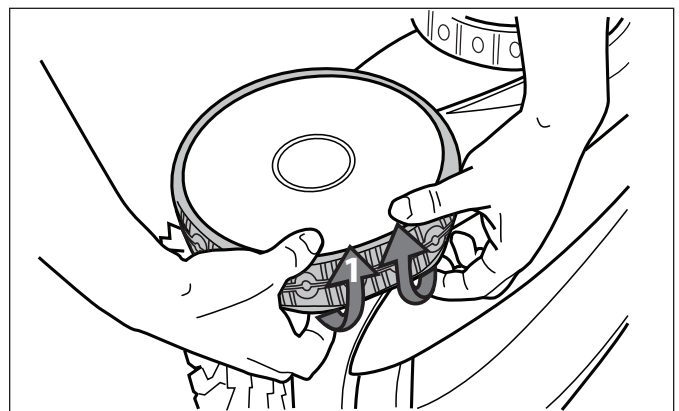

**Figure 34. Cut Tabs**
5. Use a pair of scissors to cut the tabs 3/4 inch from the heel so that they are no higher than the spikes as shown in Figure 34.